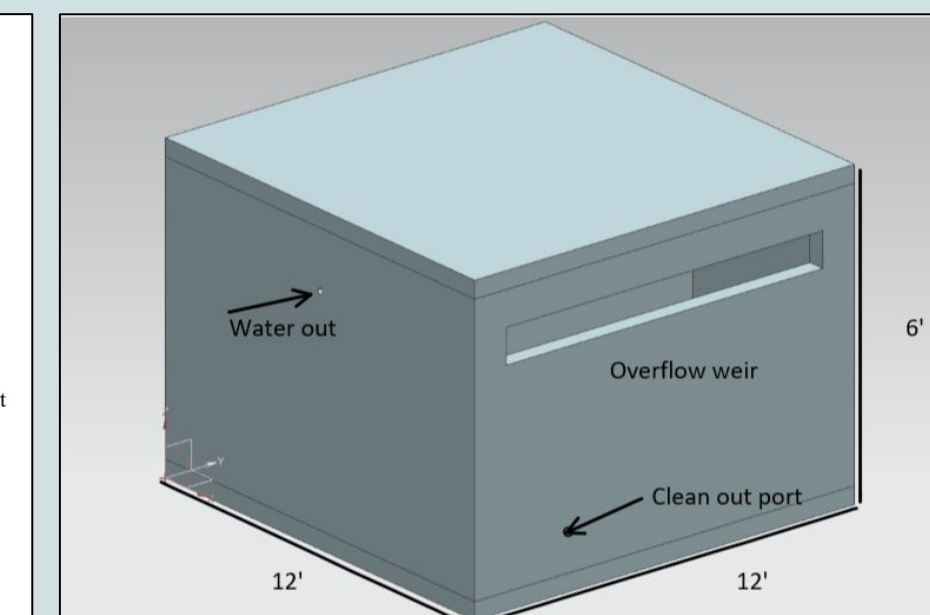

Figure 10: Sand Filtration Tank
- Removes small, dissolved particles, and some pathogens (Fig. 10)